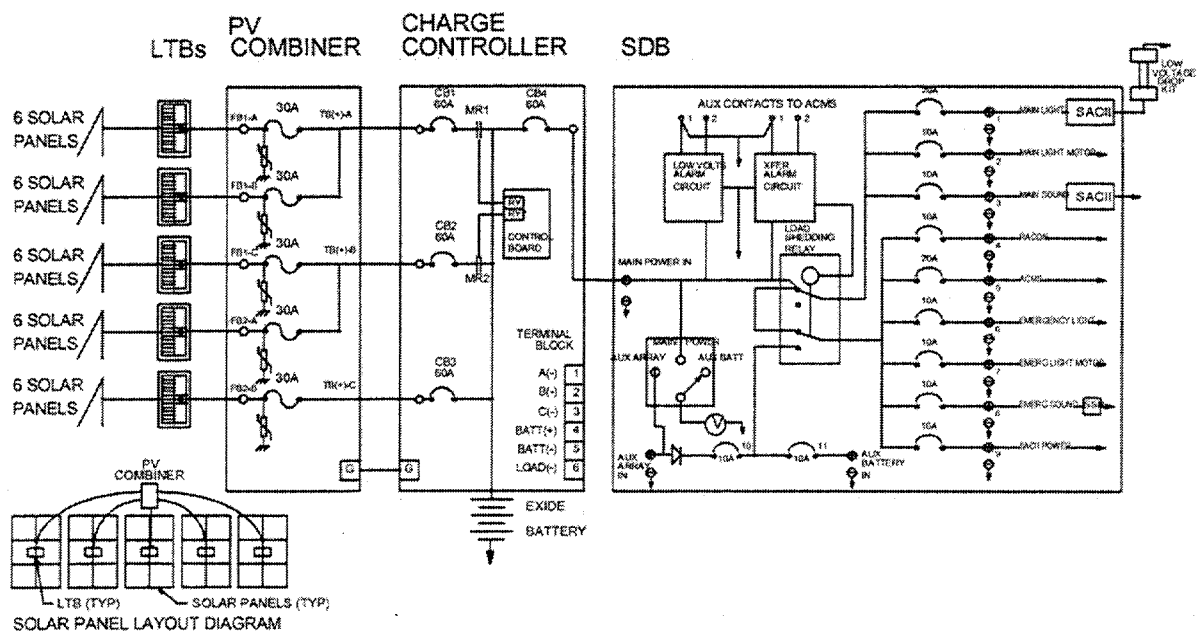

Figure 2.
- B. Major Aids. A generic solar powered lighthouse (figure 2) will have a main array and battery system, an emergency battery with a small trickle charge solar panel, a main light, main sound, and emergency light and sound. Inputs from solar panels are gathered into Local Terminal Boxes (LTBs) and a PV Combiner, and a charge controller prevents overcharge of the battery. A Solar Distribution Box (SDB) provides a centralized location to combine solar power inputs and distribute power to the loads. COMDTINST M16500.8A and standard AtoN drawings 140400 series provides detailed information on these systems.